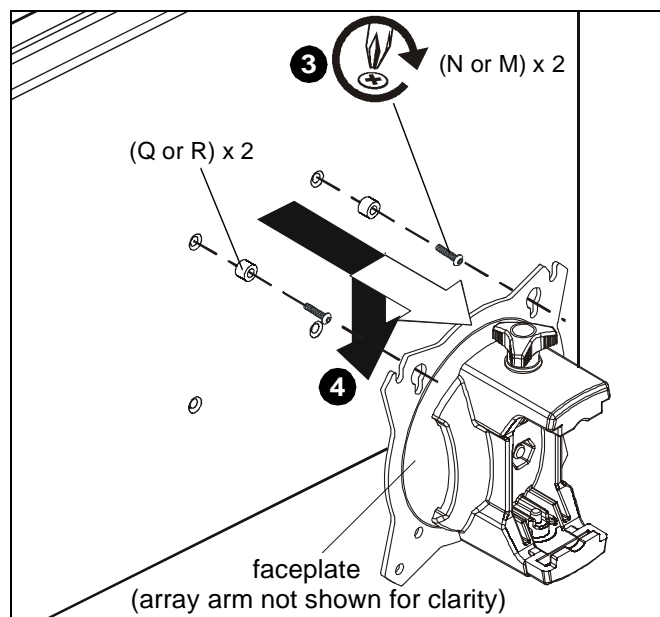

Figure 15
3. Using Phillips screwdriver, carefully install two selected screws (N or M) through selected spacers (Q or R) into the *upper* mounting holes on the display. Thread screws completely into display, then back out 3 complete turns. (See Figure 15)
4. Pick up and align display so that screws (N or M) (installed on the back of the display in the previous step) fit into the mounting holes on the faceplate. Lower the display firmly into place. (See Figure 15)